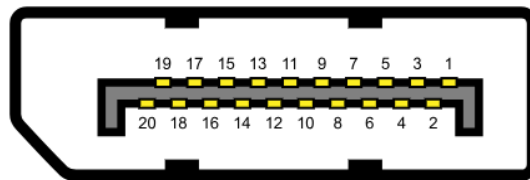

Figure 3-23: DP Connector Pinout Locations
- CN Pinouts:** See **Table 3-22** and **Figure 3-23**